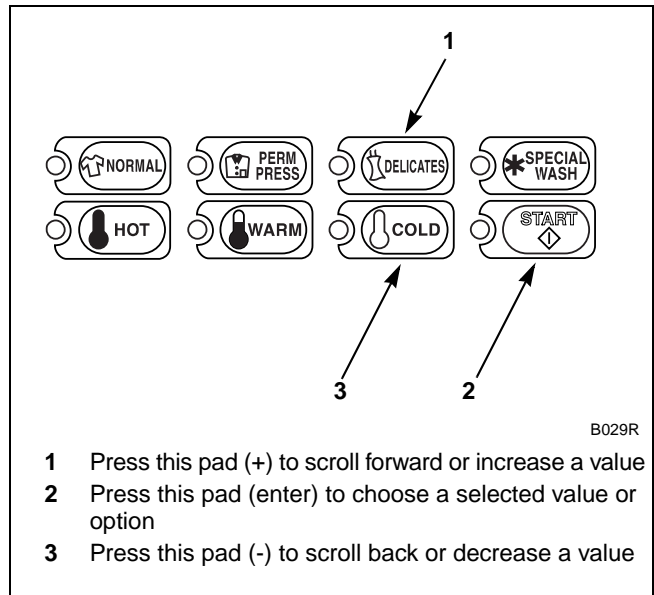

Figure 113
5. Press the DELICATES (+) or the COLD (-) keypad to increase or decrease the current number to the desired number selected from *Table 9*. Refer to *Figure 113*.